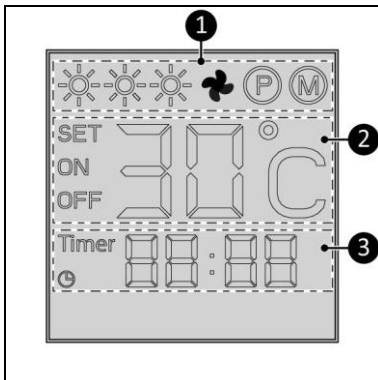

Figure 6
Status indication (Figure 6, pos. 1):
Temperature indication (Figure 6, pos. 2):
Time indication (Figure 6, pos. 3):